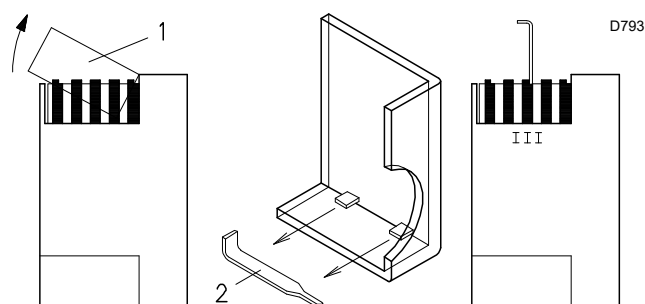

Fig. 31
The servomotor cams I - II - IV do not need to be adjusted. Only cam III may need an intervention. In this case remove the cover 1)(Fig. 31), inserted with a trigger catch, extract the special key 2) from inside, and insert it in the notch of cam III. The servomotor follows the adjustment of cam III only when the angle of the cam is reduced. If it is necessary to increase the cam angle (15..16..17°..), first increase the servomotor angle by means of the “+” key, then increase the cam III angle, and finally bring the servomotor to the position of MIN output, with the “-” key.